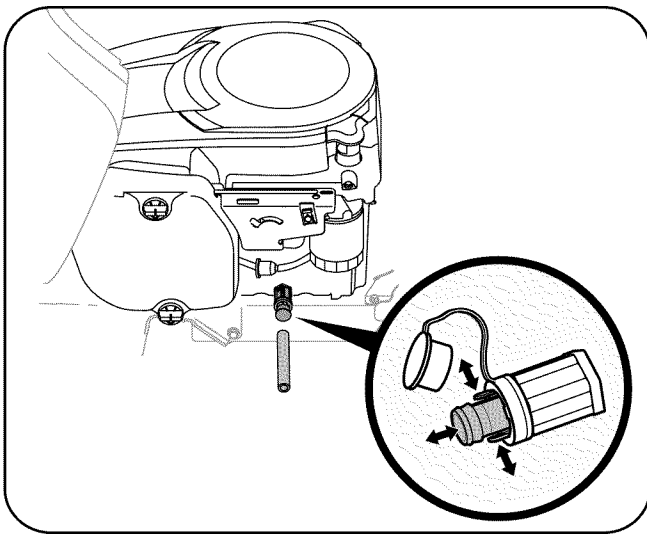

Figure 6-1
3. Pop open the protective cap on the end of the oil drain valve to expose the drain port. Refer to Figure 6-1. Remove the oil fill cap/dipstick from the oil fill tube.
5. Pinch the tabs on the oil drain valve, then pull outward to begin draining oil. See Fig 6-1.